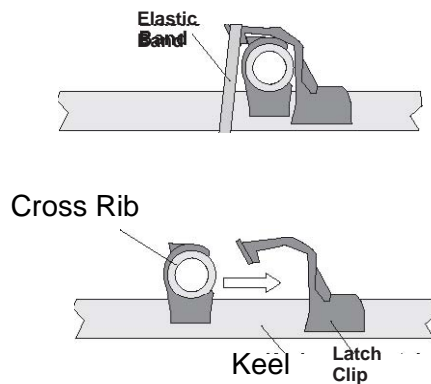

Figure 3, Latch Clip
6. Mount *cross rib (4)*.
8. Mount the four remaining *crossribs, (1) and (2)*.
- The *cross ribs* are connected to the *keel* by means of *latch clips*. Each *cross rib* has a plastic clip at the center. Position this clip on the keel as shown in Figure 3 and press in the direction of the arrow until the *latch clip* locks. Mount the *elastic band* to secure the locking.
- *Cross rib (4)* is the widest one and will be installed at the center of the Puffin. To install it the keel angle is moved to the center of the boat.